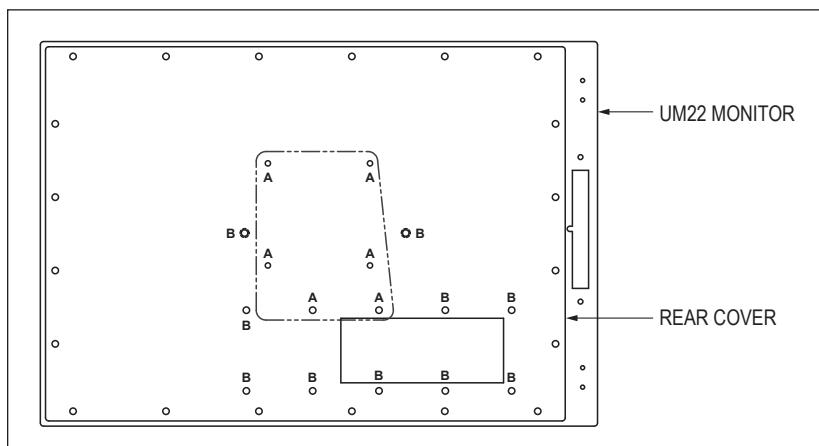

FIGURE 2
3. Prior to installing the fixed pedestal cover plate onto the rear of the monitor, remove and discard the six screws and washers from the locations marked "A" in Figure 2.
4. Remove and set aside (do not discard) the ten screws and washers from the locations marked "B" Figure 2.